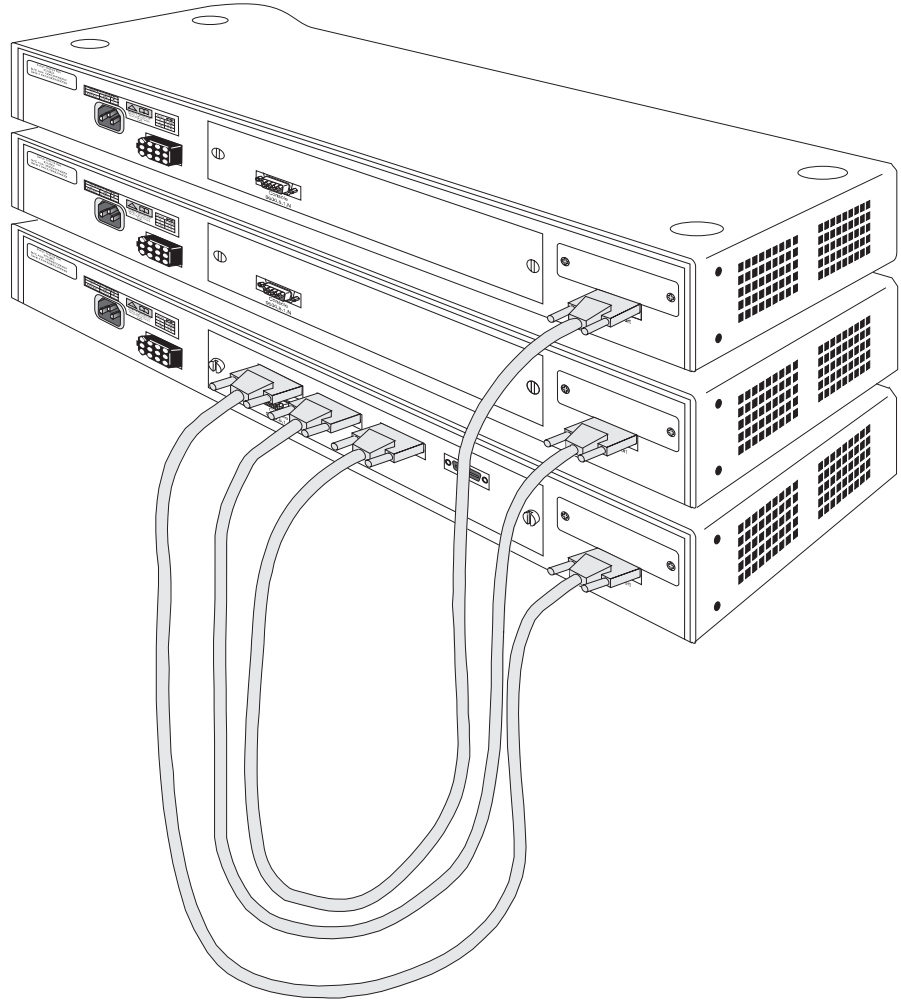

Figure 2-4 A stack of multiple units
- 3** Connect Matrix Cables, see Figure 2-4: